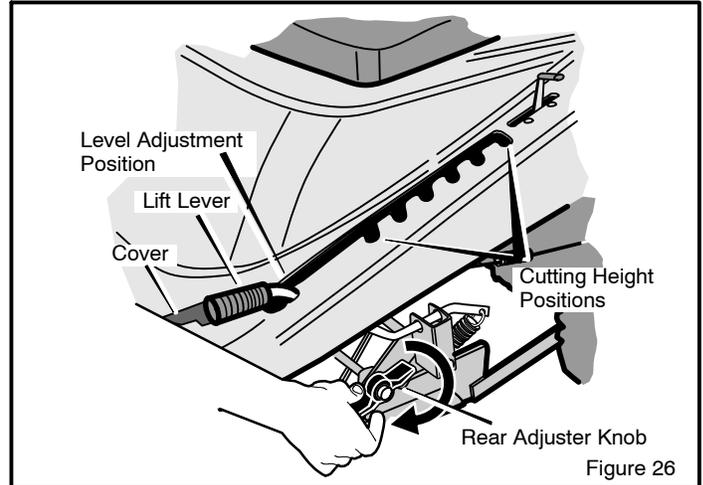
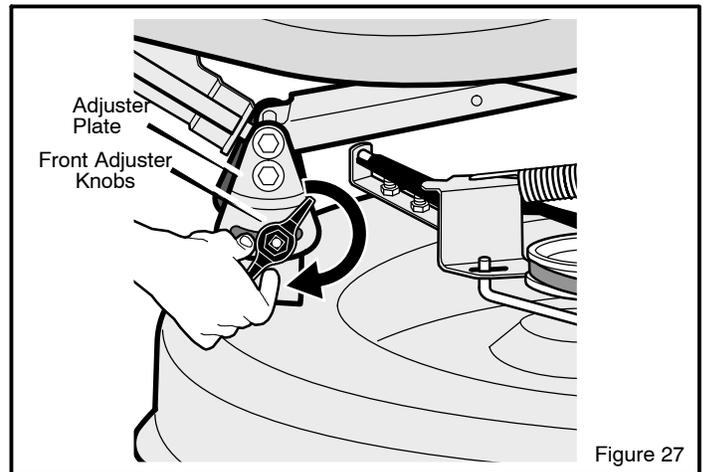

Figure 26
Figure 27
4. Open the **cover** (see Figure 26).
5. Move the **lift lever** to the LEVEL ADJUSTMENT position (see Figure 26).
6. Loosen the front and rear **adjuster knobs** (see Figure 26 and Figure 27). Make sure both sides of the mower housing are setting on a flat surface.
7. Make sure that the adjuster plate is loose and can easily move up or down (see Figure 27).